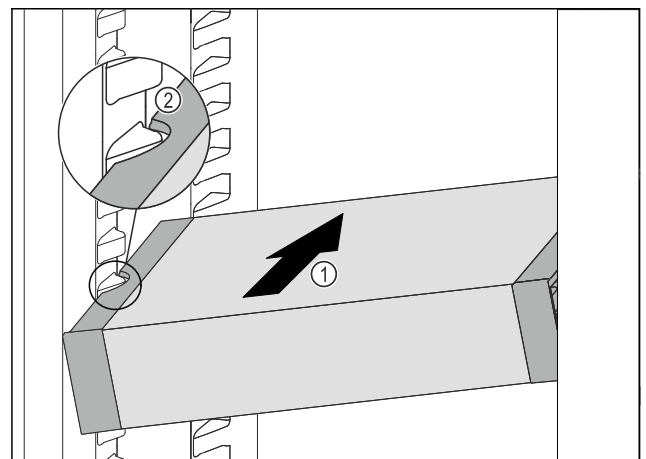

Fig. 71
- ▶ Insert the VarioSafe into the fridge section at an angle Fig. 71 (1) until the recesses in the side Fig. 71 (2) of the VarioSafe are at the level of the support rib in the fridge section.